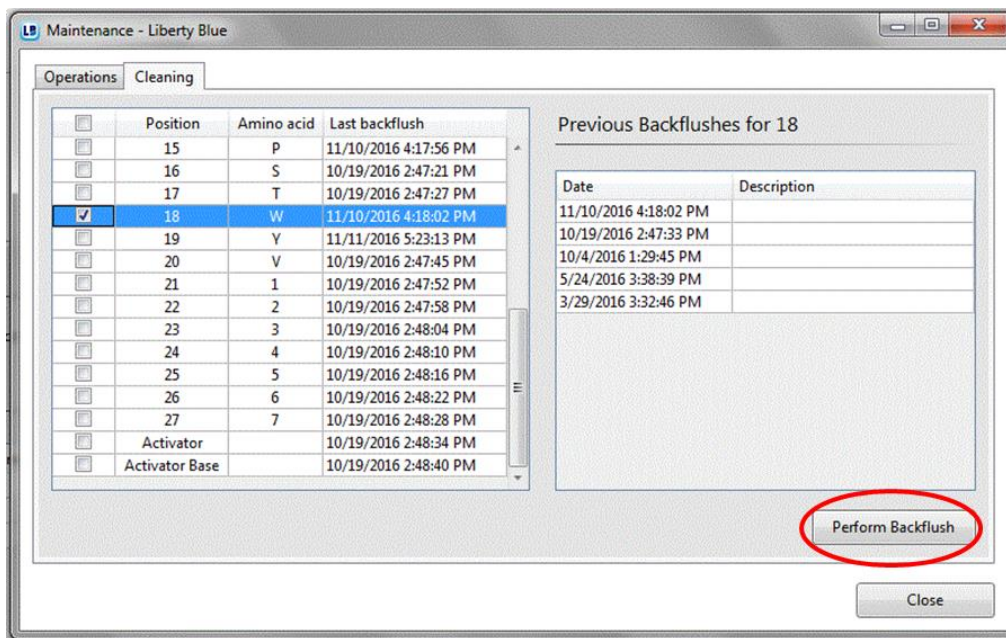

Figure 18. Backflushing cleans the lines with DMF and nitrogen before adding fresh solutions.
- Open the *Options* ⇒ *Maintenance* ⇒ *Cleaning* and check the positions of AA's to be added. Click *Perform Backflush*. This will clean the line with a little DMF and flush the line with nitrogen. (Figure 18)